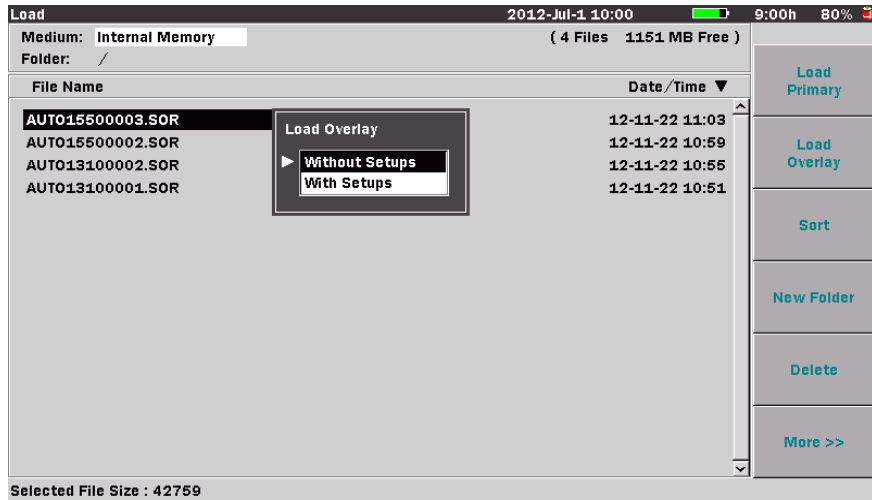

Figure 4-38: Load Overlay Dialog box
3. Select **Load Overlay** (**f2**), the Load Overlay dialog box appears. See Figure 4-38 on page 4-92.